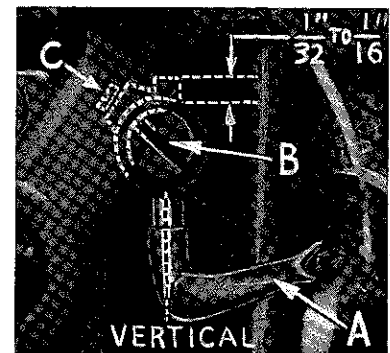

Fig. 7
its shank. Insert spreader holder into spreader shaft, if it is not already in place. Screw (C, Fig. 7) on clamp collar holds spreader holder in the shaft, and allows holder to be rotated or adjusted laterally.
Preliminary Setting: When spreader is at the right end of its stroke, spreader holder should be set to position spreader shank about vertical (Fig. 7). Top end of spreader shank should extend $\frac{1}{32}$ to $\frac{1}{16}$ inch above the spreader holder (Fig. 7).
Insert spreader (A, Fig. 7) in its holder. Screw (B) holds spreader in its holder, and permits it to be pushed in or out or turned around